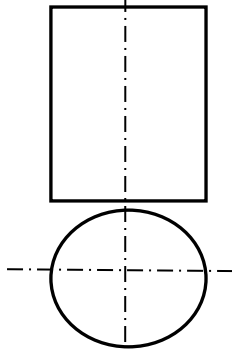

figure 22
43. The method which can be used to develop the right cylinder in figure 22 below is